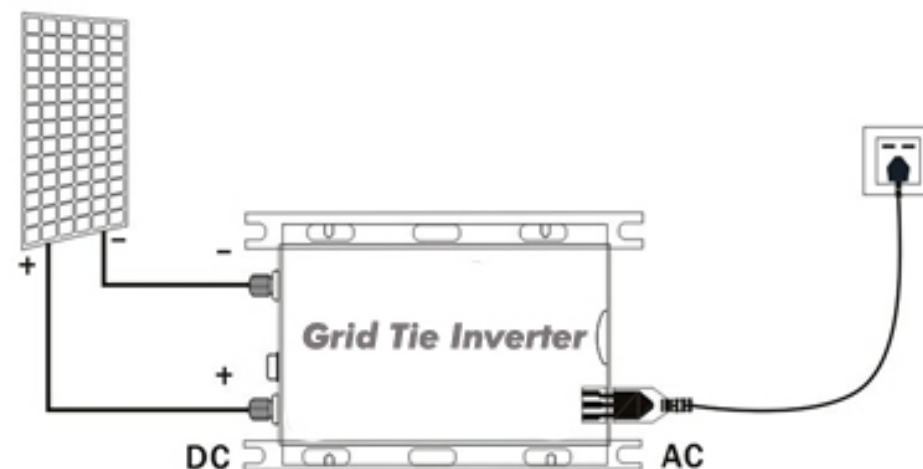

Figure 1
1. Red terminal: Connect DC positive, black terminal: Connect DC negative. Shown in Figure 1.